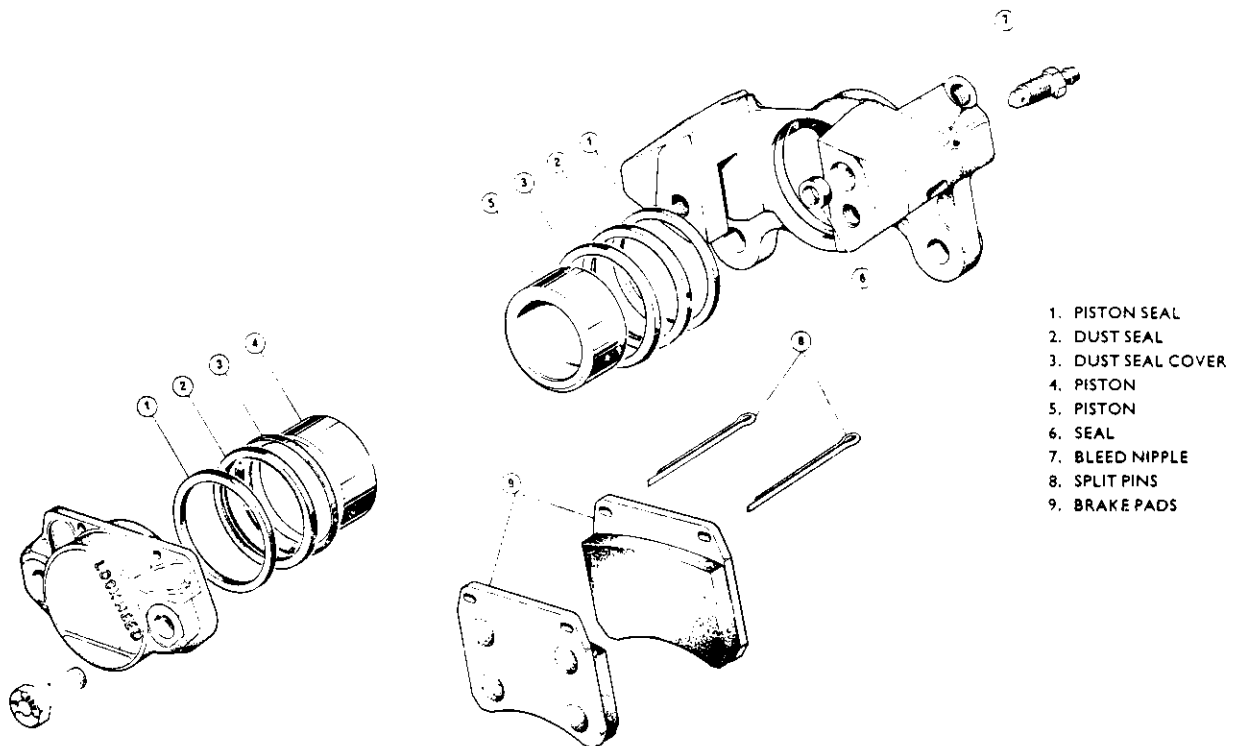

Fig. F7. Front and Rear Brake Caliper
Service the rubber seals as follows, referring to the exploded view in Fig. F7. A rubber sealing ring (1) is fitted in a groove machined in each piston bore, to seal off the hydraulic fluid. A "U" shaped rubber dust seal (2) having two wiping edges, and housed in a metal container (3), is pressed into the open end of the piston bore, to prevent the ingress of dust from the brake pads.